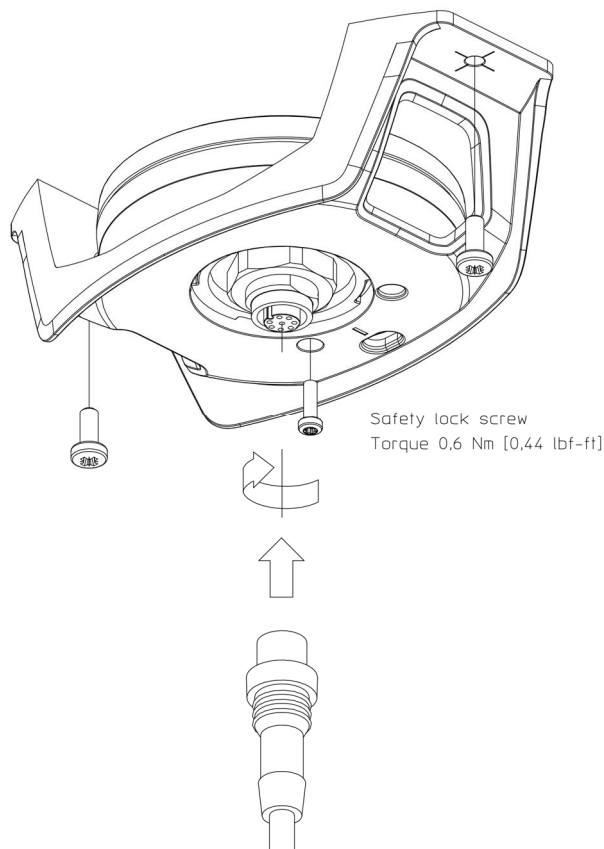

FIGURE 26: ROOF MOUNT INSTALLATION STEP 6 (FASTEN SCREWS AND CONNECT THE COMMUNICATION CABLE)
Step 6: Use the two self-cutting stainless screws to mount the Roof Mount against the roof. Secure the LT-300 GNSS Receiver and Roof Mount with the safety lock screw as illustrated in Figure 26. Connect the communication cable.